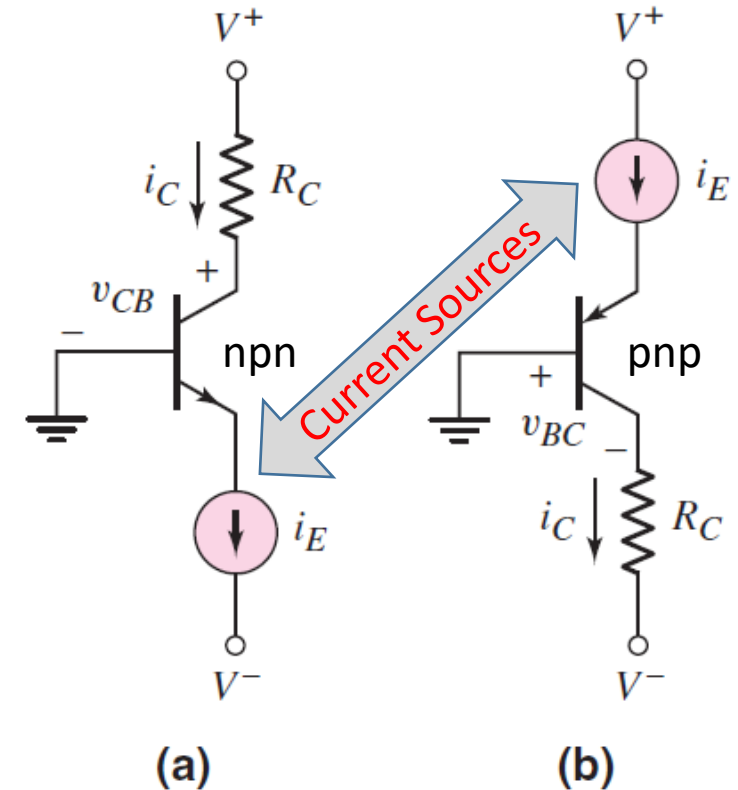

Figure 5.11 Common-base circuit configuration with constant current source biasing: (a) an npn transistor and (b) a pnp transistor
- Figures 5.11(a) and 5.11(b) show a **common-base circuit configuration** for an **npn** and **pnp** BJT respectively.